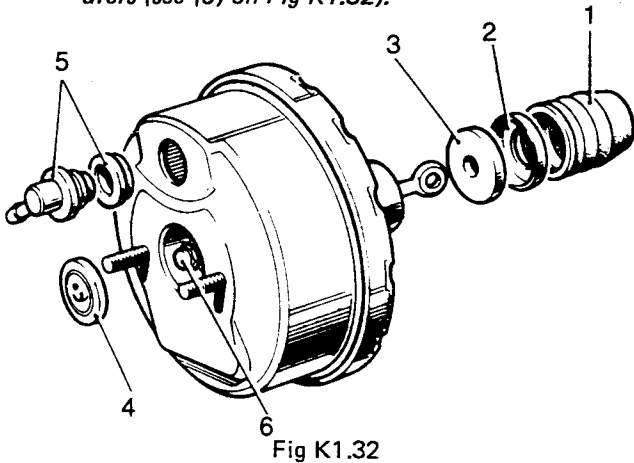

Fig K1.32
*Do not attempt to remove or adjust the operating rod which is pre-set and locked at the manufacturers (see (6) on Fig K1.32).*
- (1) Refer to Fig K1.32. Pull back the dust cover (1).
- (2) Remove the end cap (2).
- (3) Withdraw the filter (3).
- (4) Remove the seal plate assembly (4) from the front shell recess.
- (5) Remove the non-return valve and grommet (5).